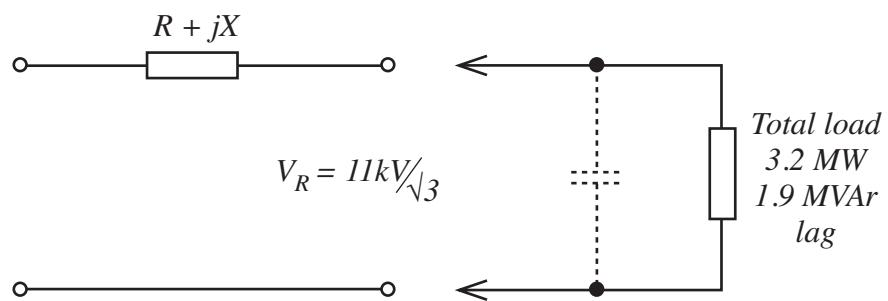

FIG. 4
5. The following phase schematic diagram (FIGURE 4) shows an 11 kV, 50 Hz, 3-phase, short line feeding a load. By calculation or constructing the phasor diagram (use a scale of 1 mm = 2 A) for the load current with V_R as reference, determine the capacitive current and
FIG. 4 from ESD - 2 - 2 (reproduced)